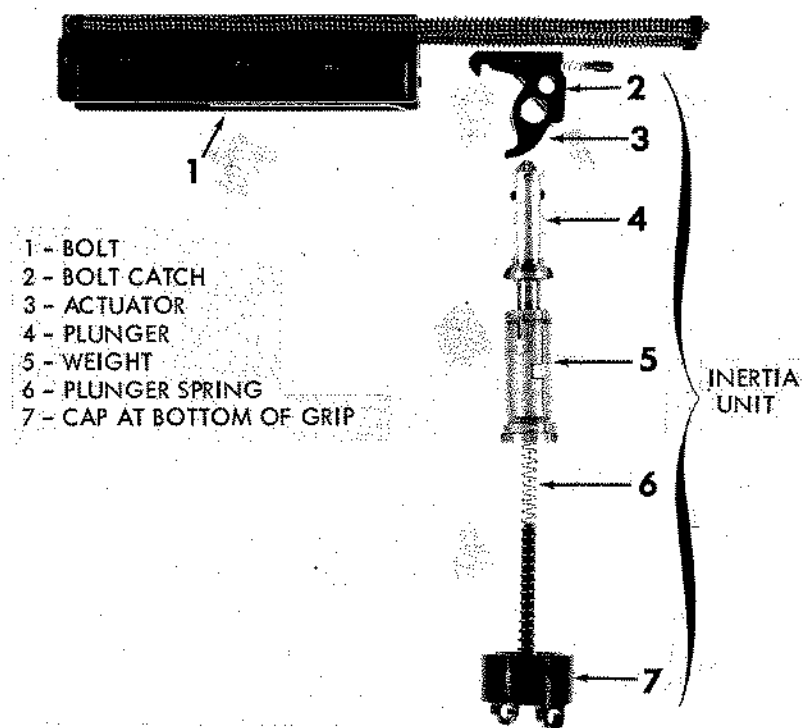

Figure 27. Vz61 rate reducer.
(1) The bolt catch (fig 27) drops down under the force of its light spring and holds the bolt to the rear, and the inertia unit (fig 27) is driven downward against its spring.
(2) The plunger moves immediately, but the weight, because of its inertia, stands still. The plunger completes its long downward travel and then, under pressure of its springs, starts back up. The weight, which by now is falling, strikes the plunger; the momentum of the weight slows down the plunger. After overcoming the downward momentum of the weight, the plunger once again moves upward and strikes the actuator. The actuator pivots on its pin and forces the bolt latch upward, freeing the bolt. This momentary catching and releasing of the bolt slows the rate of fire from more than 1000 rounds per minute to around 800 rounds per minute.